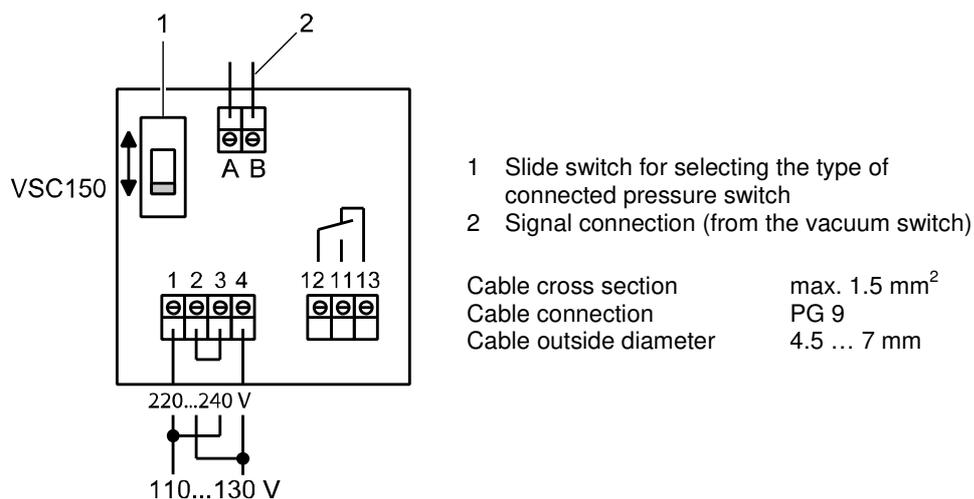

Fig. 5 Connection diagram of the switching amplifier
Socket contact 3 (4/4) and protective ground conductor are not connected! See Fig. 5 for connection cables.
- Connect socket contact 1 (4/4) to terminal A on the switching amplifier (see Fig. 5).
- Connect socket contact 2 (4/4) to terminal B on the switching amplifier (see Fig. 5).
The built-in slide switch (5/1) must be set to the connected type of pressure switch. For electrical installation the switching amplifier SV is delivered set for 220 V. For mains voltages of 110 V to 130 V change terminal bridge connectors as shown in Fig. 5. When connecting to the mains the VDE 0100 regulations must be observed. The connection of the external consumer which is to be switched is shown in Fig. 5.
The relay contact via terminals 11 and 12 in the connected switching amplifier SV must now be open (Fig. 5).
- The switch contact on terminals 11 and 12 (see Fig. 5) is closed.
The contact via terminal 11 and 12 must now be open (Fig. 5).
Loop the control circuit of the gate valve via the break contact, terminals 12 and 13 (see Fig. 5), of the switching amplifier relay. The basic adjustment as described in Section 2.3.2.1 applies to the vacuum switch, i.e. the diaphragm must just touch the contact pin (6/2) see section 3.1.
Control the electrically operated valve (normally closed) via the break-contact, terminals 12 and 13 (see Fig. 5), of the switching amplifier SV. In case of power failure this valve closes. When the power returns the valve is not opened before the pressure in the sensing volume and the reference volume of the vacuum switch has become equal.
The venting valve (normally closed) is controlled via the make-contact of the switching amplifier relay, terminals 11 and 12 (see Fig. 5). For venting up to atmospheric pressure the basic adjustment of the vacuum switch contact applies. If venting should end before, the switching pressure can be continuously lowered by 20 mbar max. turning the adjusting screw (6/2) clockwise.
Loop the control circuit of the venting valve via the break contact of the switching amplifier relay, terminals 12 and 13 (see Fig. 5). The switching pressure can be raised by 20 mbar max. above atmospheric pressure by turning the adjusting screw (6/2) clockwise.